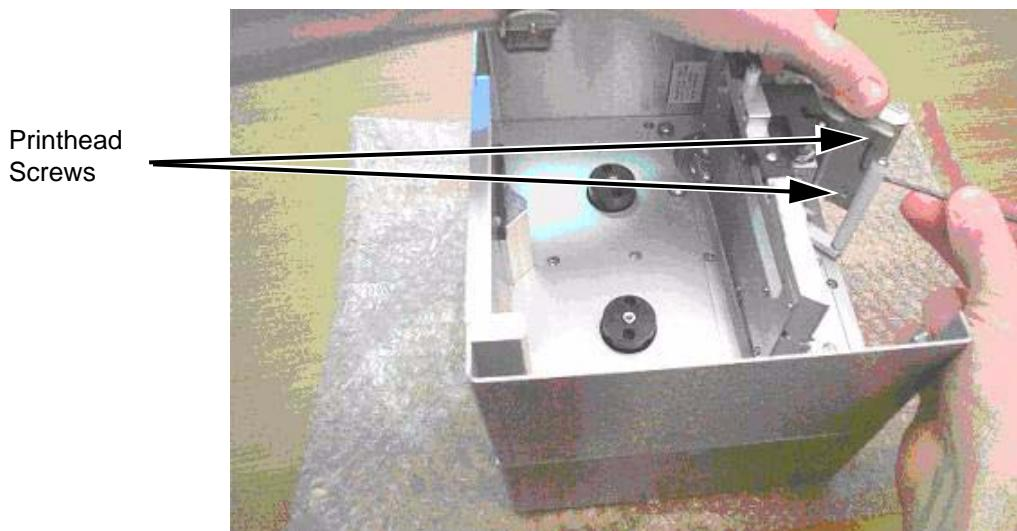

Figure 5-33: Printhead Screws Removal
- 1 Remove the two printhead retaining screws as shown in Figure 5-33.